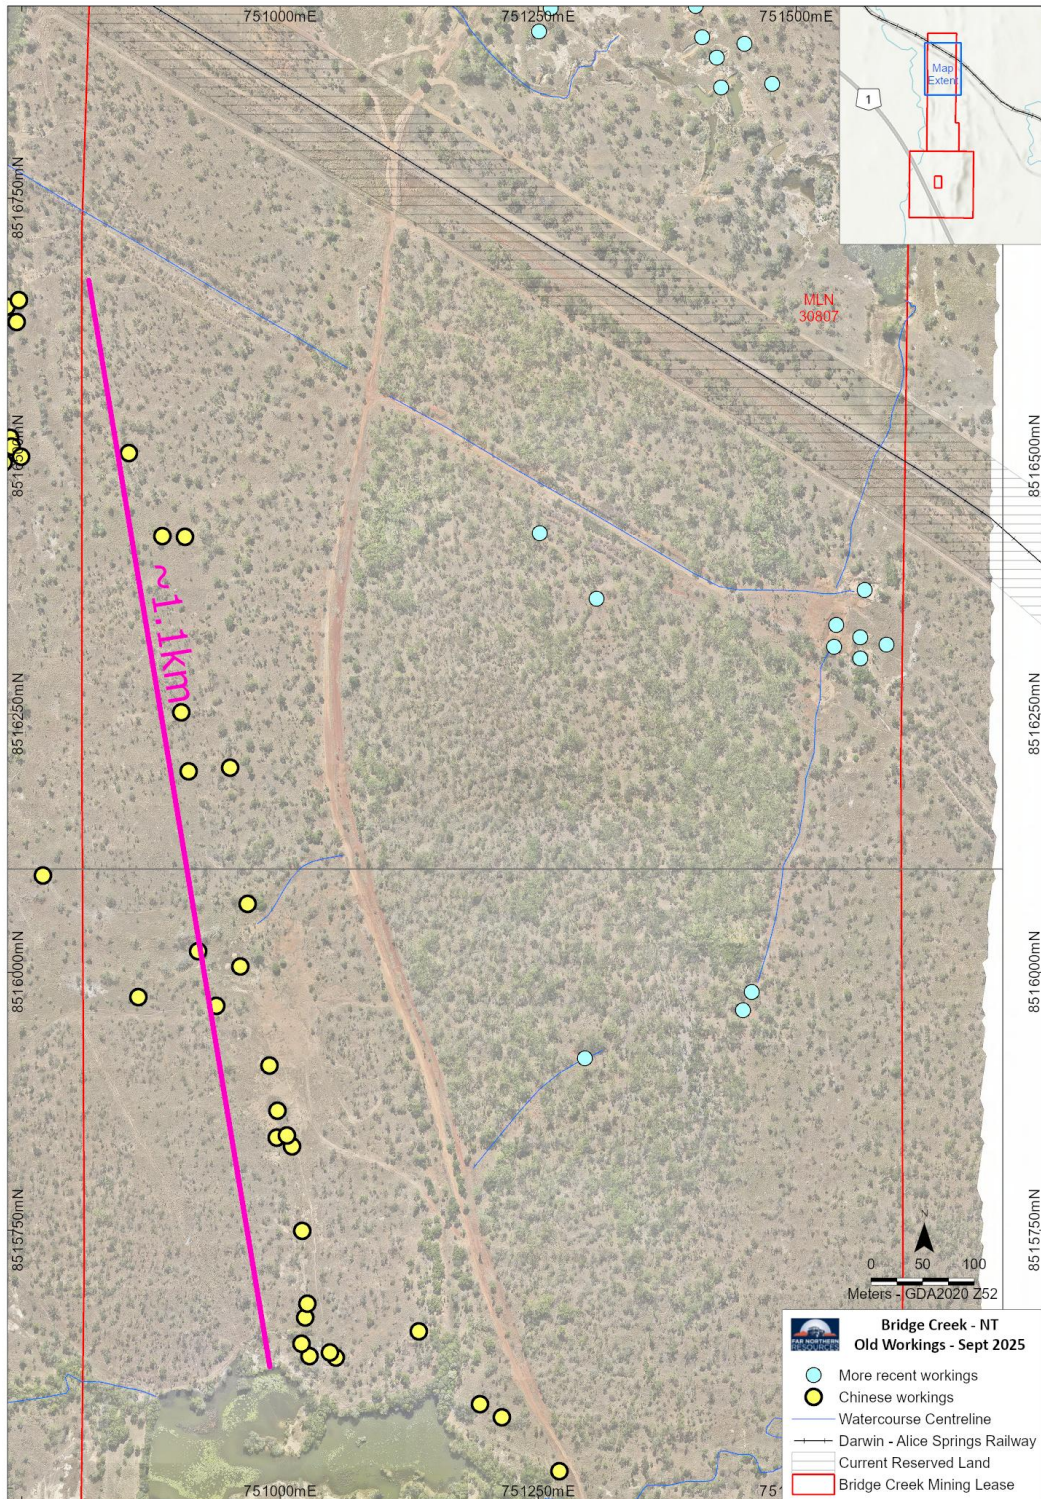

FIGURE 2: AERIAL PHOTOGRAPHY FROM THE RECENT LIDAR SURVEY HIGHLIGHTS MULTIPLE AREAS OF INTEREST AT BRIDGE CREEK NORTH OVER 1.1KM OF STRIKE.
- The LiDAR survey has uncovered multiple historical workings/diggings (Refer to *Figure 2*). The historical workings/diggings have an identified strike of over 1.1km